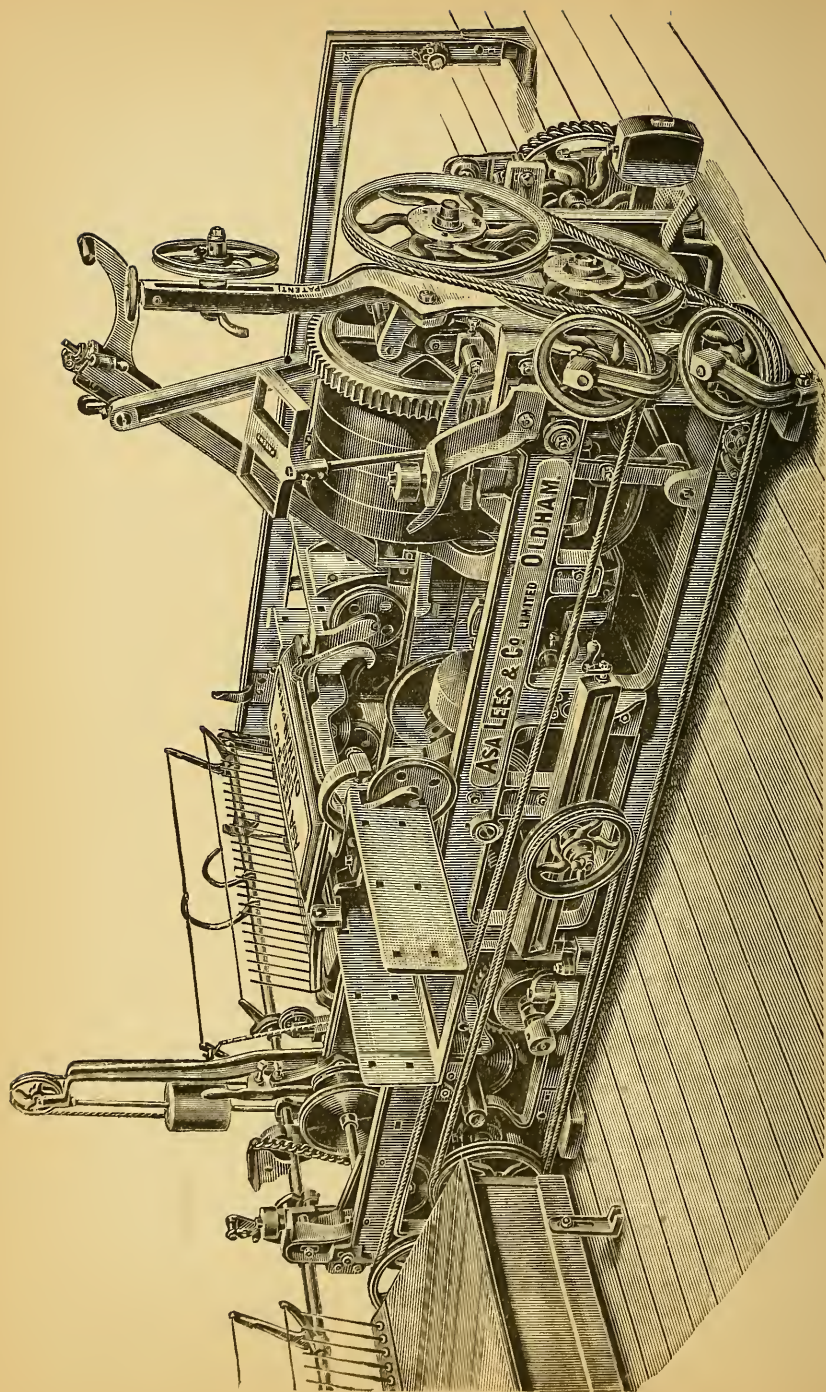
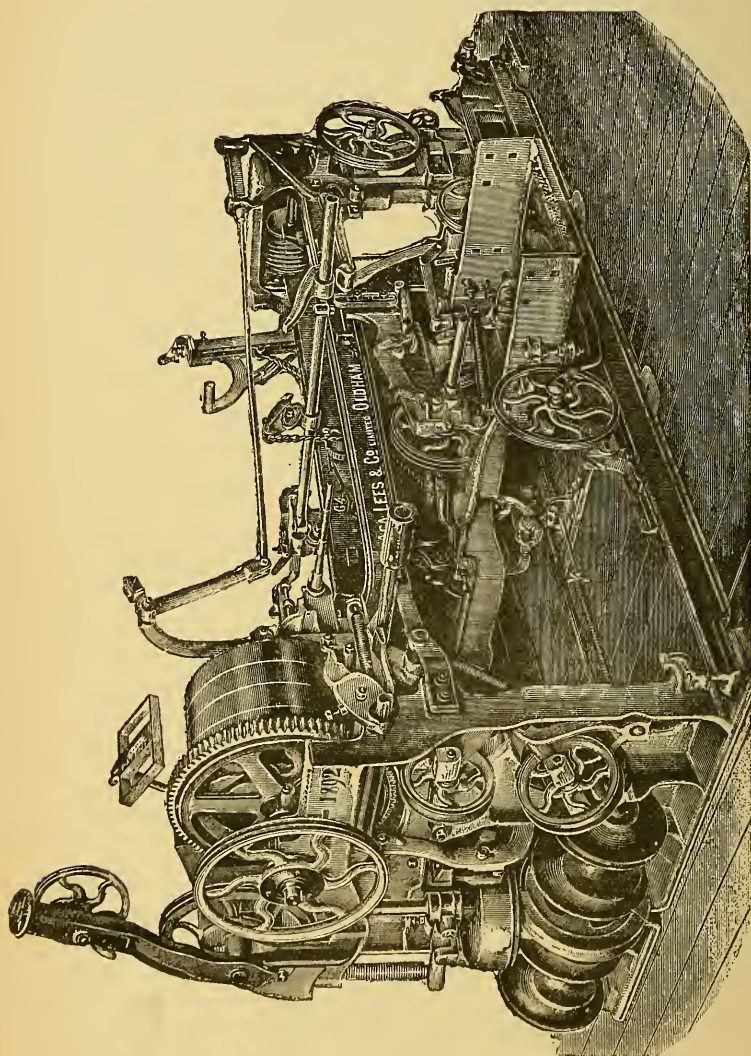

Fig. 20.—Self-Acting Twinner.
Fig. 21.—Self-Acting Mule Headstock.
**An Improved Mule.**—Those who have watched the development of spinning machinery during the past few years, must be surprised at the enormous improvements which have been made in this class of textile machinery. We give an illustration (Fig. 20) of an excellent improved mule now in operation, which is very much commended. It contains all the latest advantages, especially in the driving arrangements being placed over the headstock, with a belt running parallel to the sides. For mills of a narrow width, this type of mule is extremely suitable. The self-acting headstock is shown in Fig. 21.